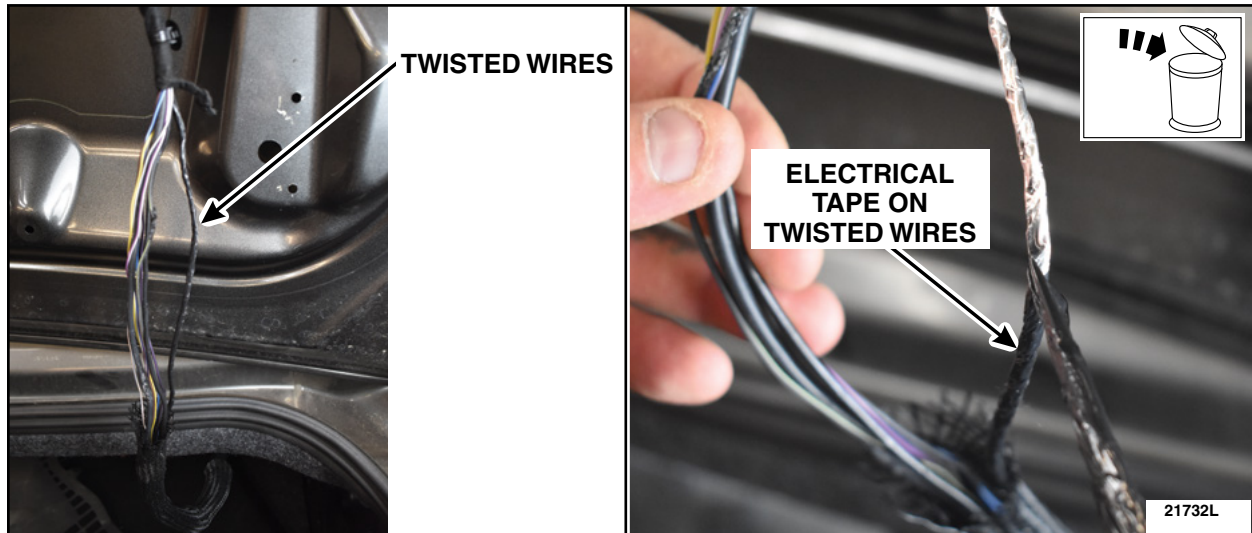

FIGURE 13
17. Locate the twisted wires. Carefully remove and discard the electrical tape on the twisted wires the full length of the exposed wiring. See Figure 13.